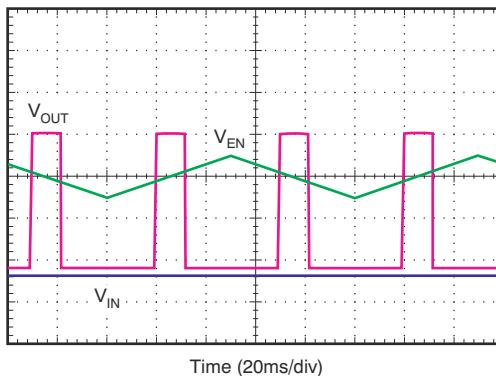

图 7-1. Enable Pin Positive and Negative Threshold
The TPS7H1210-SEP provides a dual-polarity enable pin (EN) that turns on the regulator when $|V_{EN}| > 2$ V, whether the voltage is positive or negative, as shown in 图 7-1. Specifically, if $V_{EN} \geq V_{EN(+HI)}$ or $V_{EN} \leq V_{EN(-HI)}$, the regulator is enabled. If $V_{EN(+LO)} \geq V_{EN} \geq V_{EN(-LO)}$, the regulator is disabled.